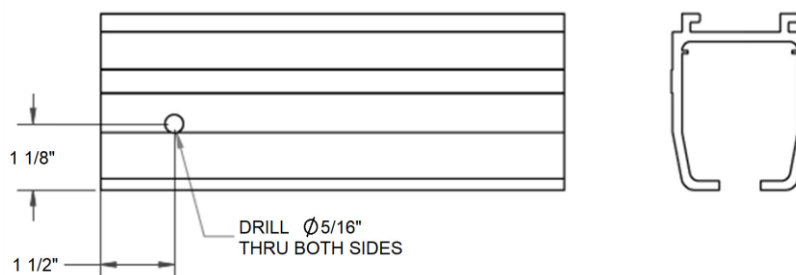

Figure 220: **Clevis Pin Hole Location**
- b. Use a 5/16" bit to drill a hole at the marked spots for the clevis pin (Figure 220).